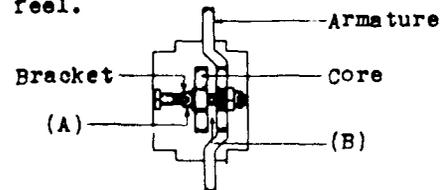

Fig. 5
2.10 Adjustable Stop Pin Tightness - Fig. 5
2.11 Armature Travel - Fig. 5 (B) -